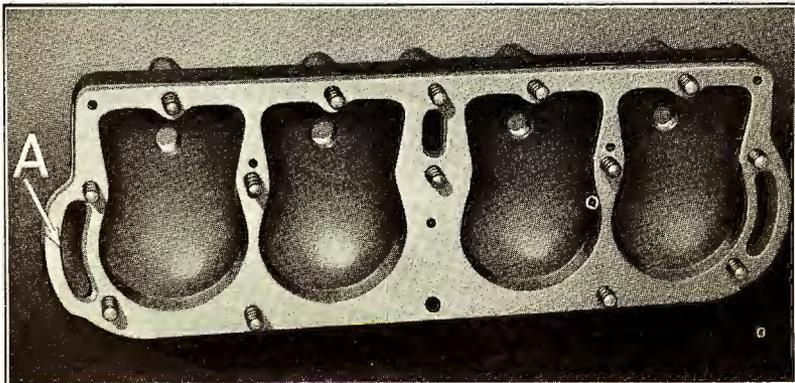

Fig. 226
- 373** Replace cylinder head by inserting the 14 cylinder head bolts into cylinder head (See Fig. 226).